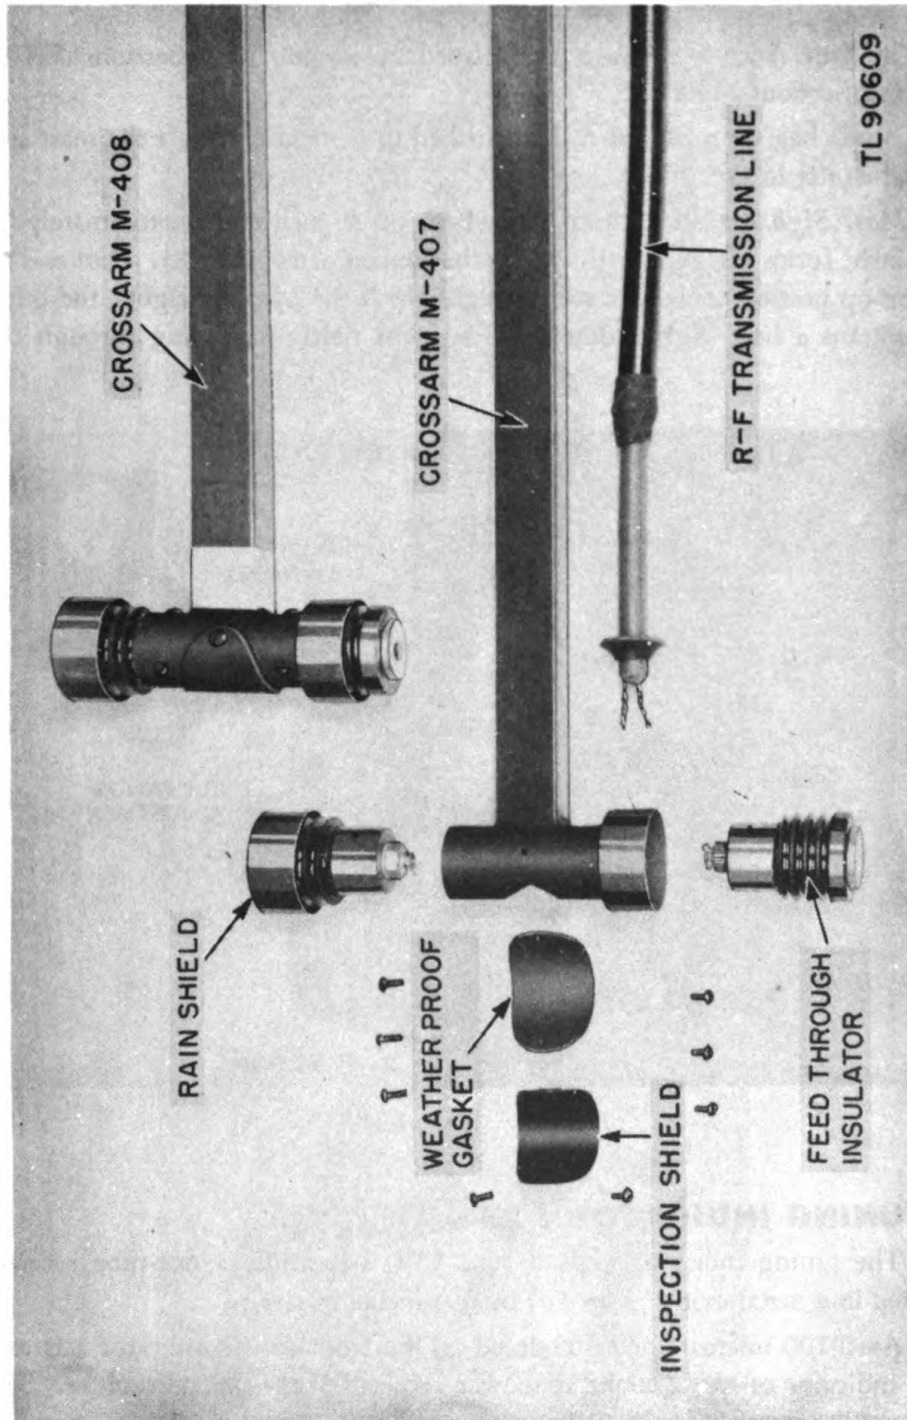

Figure 6. Crossarms M-407 and M-408.
c. Adcock-type Antenna. (1) Two crossarms M-407 and M-408 (fig. 6) consists of 46-inch lengths of 1-inch square metal tubing. Within each crossarm is a two-wire transmission line which connects the Adcock elements. The line is supported by feed-through insulators at one end and terminates in a female plug inserted into the other end. The crossarms are marked and the plugs are